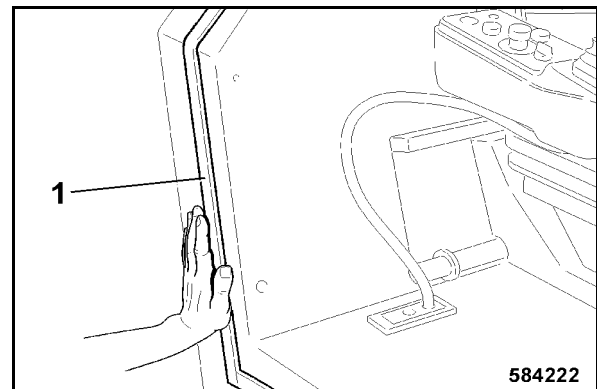

Fig. 206
- Stick the supplied sealing tape 1 (Fig. 206) along the edge of the operator's stand.